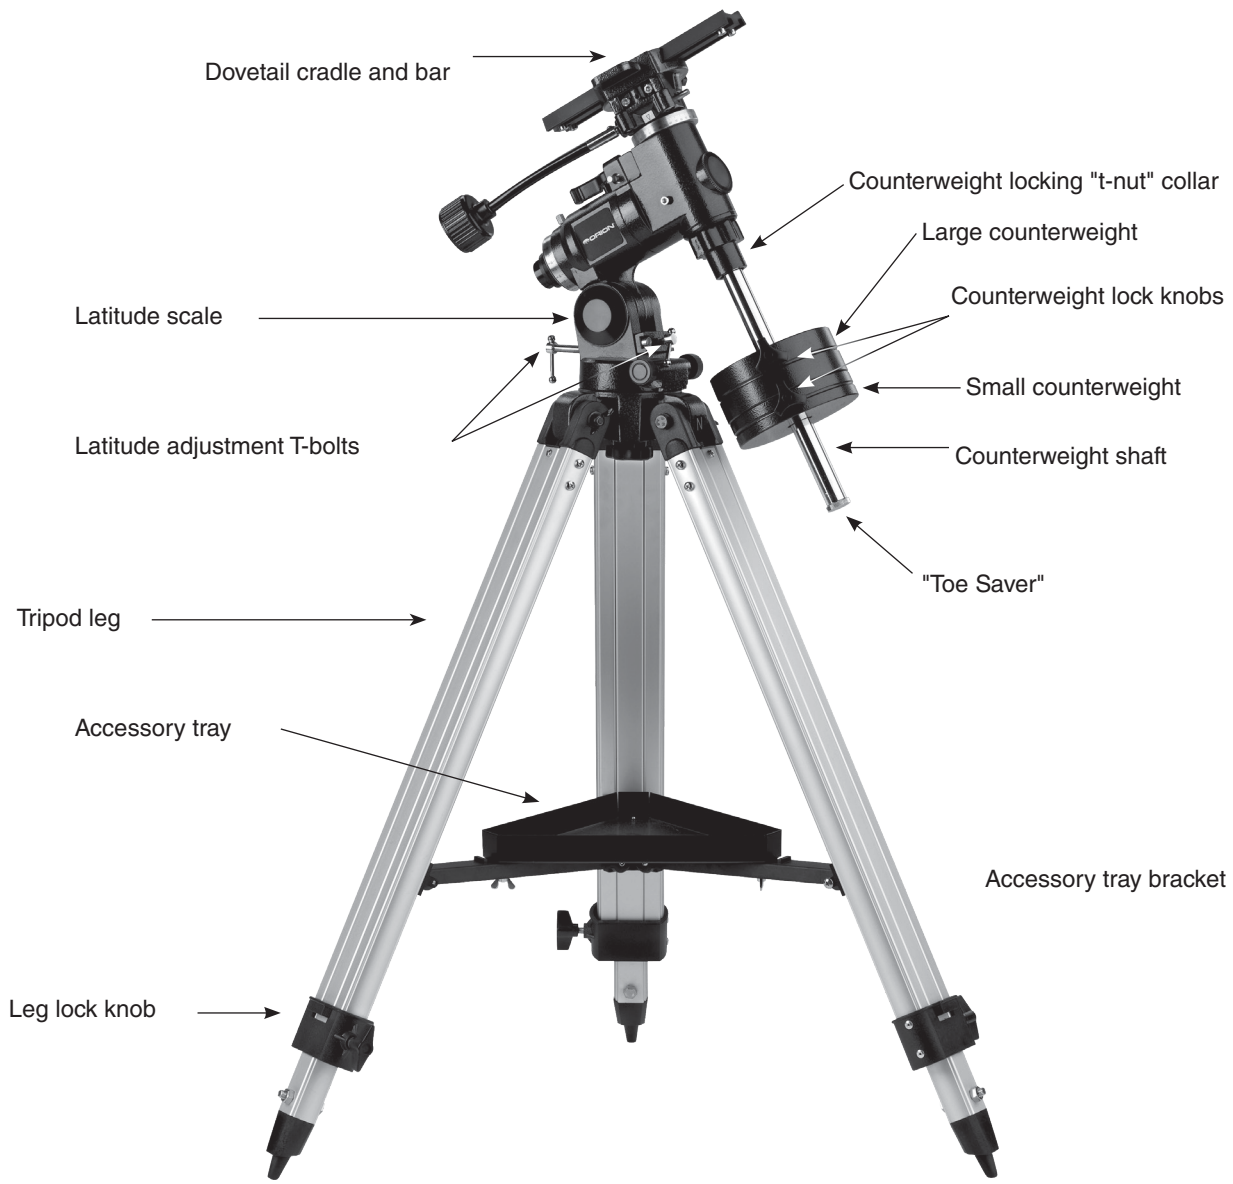
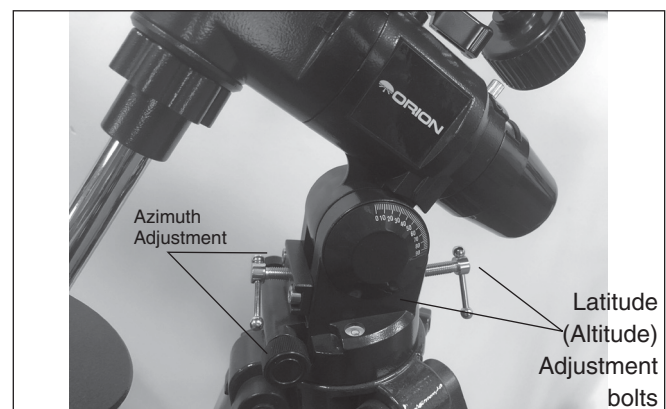

Figure 1. The AstroView Equatorial Mount.
Figure 2. The latitude adjustments bolts and azimuth adjustment knobs
Assembling the mount for the first time should take about 20 minutes. No tools are needed, other than the ones provided. All screws should be tightened securely to eliminate flexing and wobbling, but be careful not to over-tighten or the threads may strip. Refer to **Figure 1** during the assembly process.
4. Orient the equatorial mount as it appears in Figure 1, at a latitude of about 40°, i.e., so the pointer next to the latitude scale is pointing to the line at “40”. To do this, loosen one of the latitude adjusting T-bolts and then tighten the other latitude adjusting T-bolt until the pointer and the “40” line up (**Figure 2**). The declination (Dec.) and right ascension (R.A.) axes may need re-positioning (rotation) as well. Be
2. There are two latitude adjustment T-Bolts (see **Figure 2**); loosen one T-Bolt while tightening the other. By doing this you will adjust the latitude of the mount. Continue adjusting the mount until the pointer on the latitude scale is set at the latitude of your observing site. If you don't know your latitude, consult a geographical atlas to find it. For example, if your latitude is 35° North, set the pointer to 35. The latitude setting should not have to be adjusted again unless you move to a different viewing location some distance away.
4. Now use the azimuth adjustment knobs and the latitude adjustment L-bolts (**Figure 2**) on the mount to position the star Polaris inside the tiny circle marked “Polaris” on the finder’s reticle. You must first loosen the knob underneath the equatorial mount SLIGHTLY on the center support shaft to use the azimuth adjustment knobs. Once Polaris is properly positioned within the reticle, you are precisely polar aligned. Retighten the knob underneath the equatorial mount.